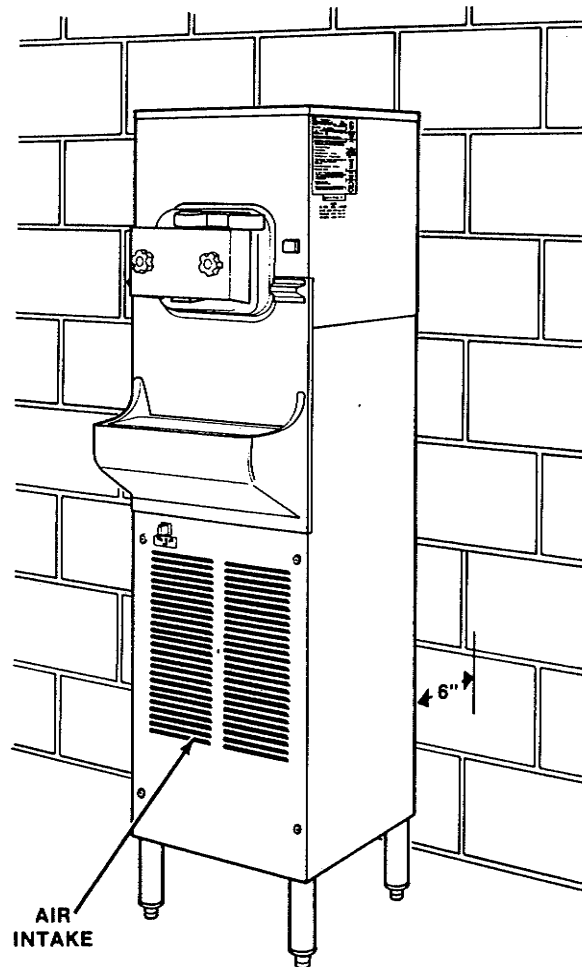

Figure 5. Space and Ventilation Requirements
Air cooled: Requires minimum 6" (15.2 cm) air clearance in front and behind unit. No clearance needed left or right side. (See Fig. 5.)
- C. The freezer is equipped with an air cooled condenser and requires correct ventilation. The front of the freezer is the air intake and **must** have 6" (15.2 cm) clearance. Air discharges out the rear of the unit. **Do not** obstruct the discharge. Allow a 6" (15.2 cm) clearance behind the unit (Fig. 5).